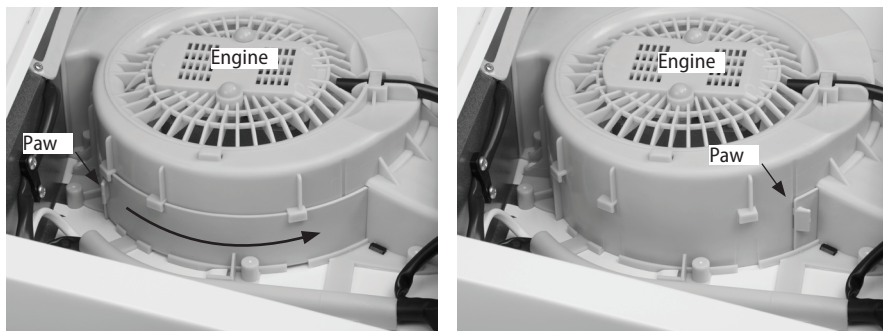

Fig. 3
4. In the engine compartment, "flip" the lever to recirculation mode (Fig. 3).